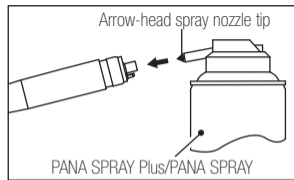

Fig. 9
- 2) Mount the arrow-head spray nozzle tip into the spray can port. (Fig. 9)